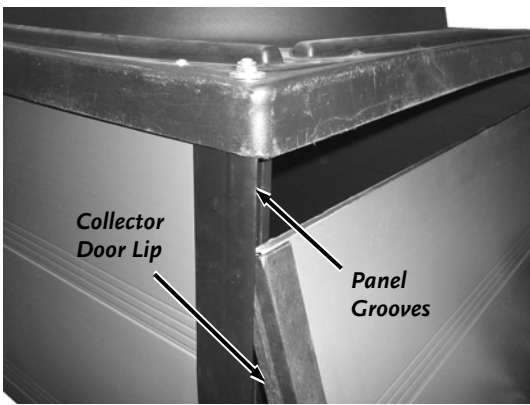

Figure 11
13. Position the top of the Collector Door (inside Lips) into the grooves at the back of the Side Panels and Slide the Collector Door top up under the end of the Container Cover (**Figure 11**). Push the Door in at the bottom until it rests on the end of the Collector Base.